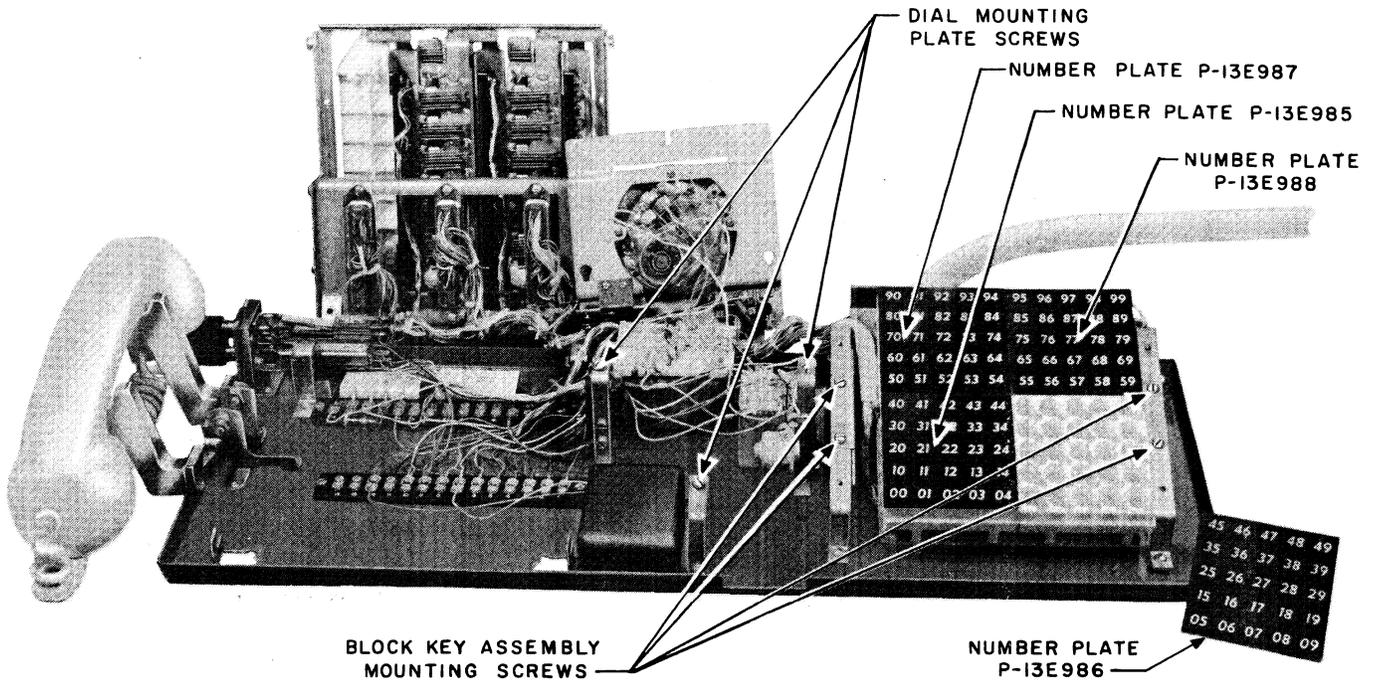

Fig. 4—6A1 Telephone Console (Dismantled)
2. Loosen screws on dial mounting plate (see Fig. 4).
3.11 The number plates for the block key assembly are covered in Fig. 4.